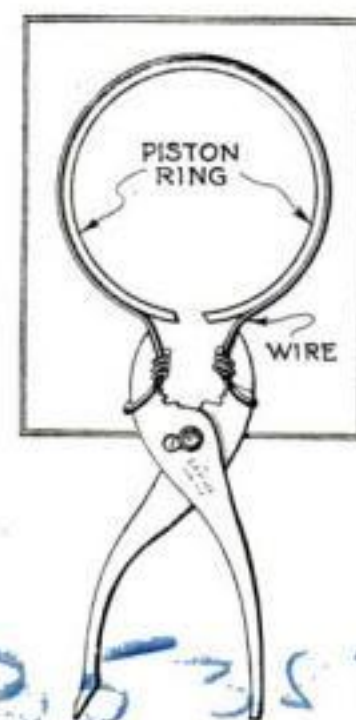

Fig. 4. Novel piston ring compressor made from pliers.
W. Conway, of Syosset, N. Y., wins this month's \$10 prize for his suggestion of a piston ring compressor, shown in Fig. 4. Each month POPULAR SCIENCE MONTHLY awards \$10, in addition to regular space rates, for the best idea sent in for motorists. Other contributions used are paid for at the usual rates.
FIGURE 4 shows an effective piston ring compressor made of a pair of adjustable pliers and a piece of strong iron wire. Success depends on how carefully you fit the ends of the wire to the jaws of the pliers. By fitting the wire so that the ring stands at right angles, it is possible to use this compressor in close quarters.